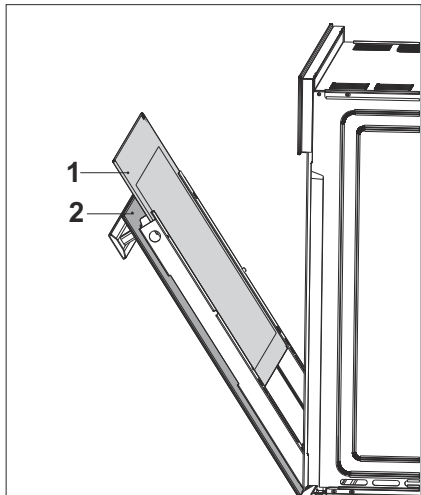

Fig. 31
- Remove the internal glass of the appliance to clean it (Fig. 31).